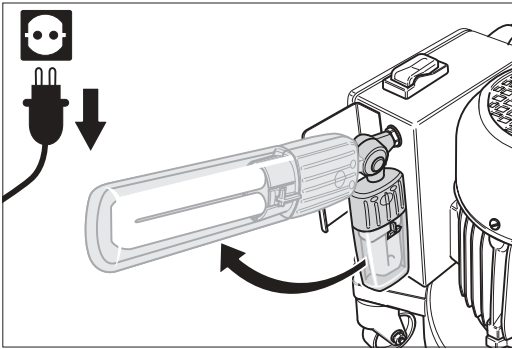

Fig. 80: Swivel the working lamp upward.
- 3 Swivel the working lamp upward (Fig. 80).